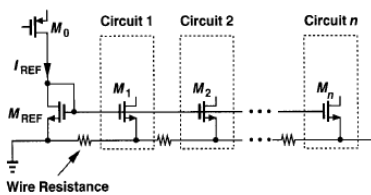

Figure 18.21 Distribution of a reference voltage for current-mirror biasing.
- Fig 18.21:  $I_{ref}$  is produced by a bandgap reference and  $M_1$ - $M_n$  serve as bias current sources of building blocks that are located far from  $M_{ref}$  and far from each other. **IR drops** around the ground lines may lead to unacceptable mismatch between current sources.